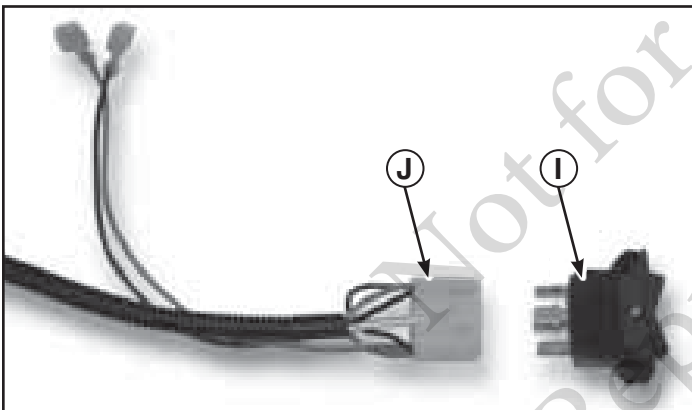

Figure 19
2. Plug female connector of the upper wiring harness (J, Figure 19) into switch (I).